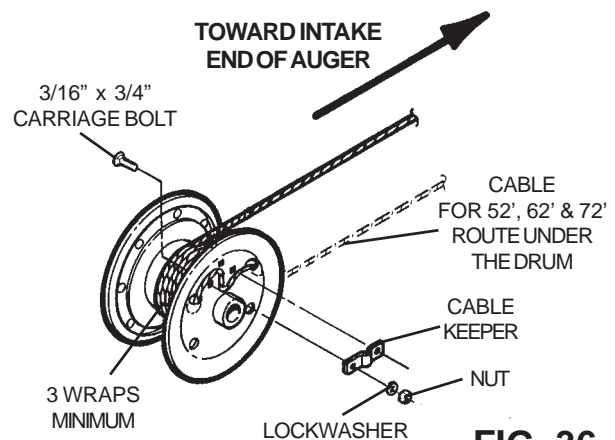

FIG. 36
34. Attach 1/4" lift cable to winch drum, so cable will wrap over winch drum on 32' & 42' models and under winch drum for 52', 62' & 72' models when turning handle in a clockwise direction. See Fig. 36. From inside of drum, insert the cable through one round hole in the drum side, until it extends 1" past the two square holes. Next, clamp the cable to the outside of the drum with the cable keeper, using two 3/16" x 3/4" carriage bolts, lock washers and nuts. Be sure that the carriage bolt heads are on the inside of the drum.